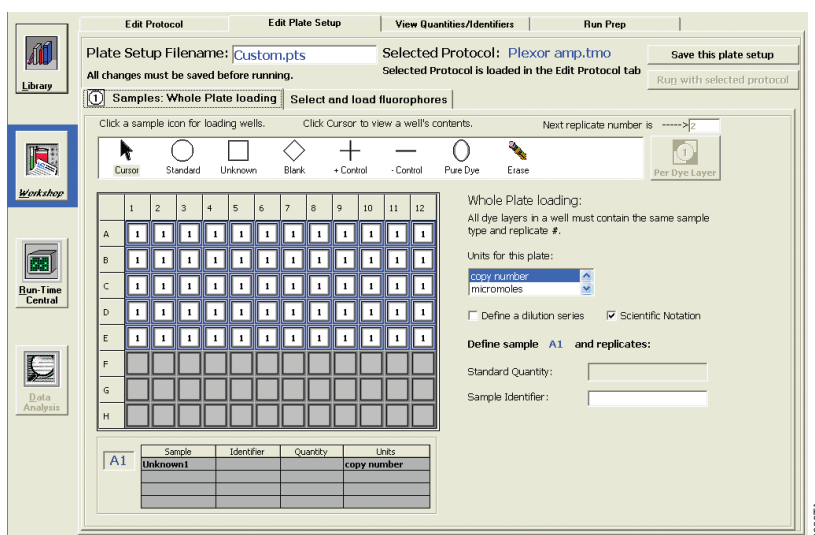

Figure 13. The “Whole Plate Loading” tab in the “Edit Plate Setup” window.
5. Select "Unknown" from the sample type icons (Figure 13).
10. Enter a name in the “Plate Setup Filename” box (Figure 13). Save the plate setup by selecting “Save this plate setup” and then selecting “Save” in the “Saving a Plate Setup” window that appears.